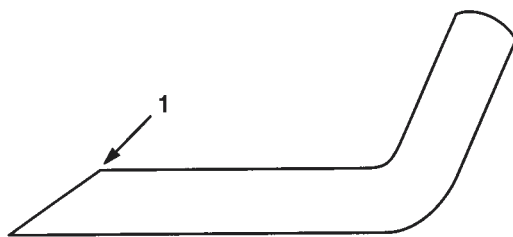

Figure 20
3. Examine the cutting edges of all blades. Sharpen the cutting edges if they are dull or nicked. Sharpen only the top of the cutting edge and maintain the original cutting angle to make sure of sharpness (Fig. 20). The blade will remain balanced if same amount of metal is removed from both cutting edges.